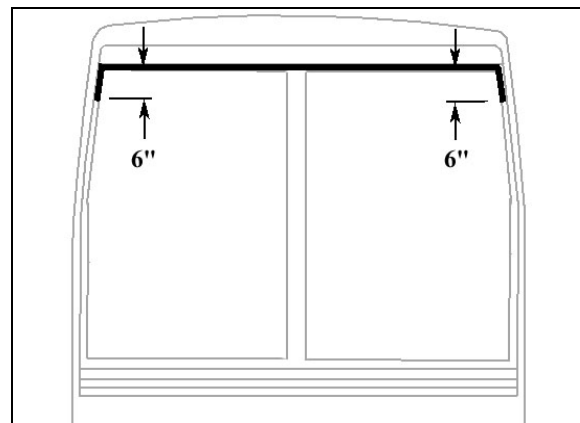

FIGURE 16: APPLICATION OF SIKA 221 BLACK
- Apply Sika 221 black (Figure 16) between fiberglass and rubber extrusion